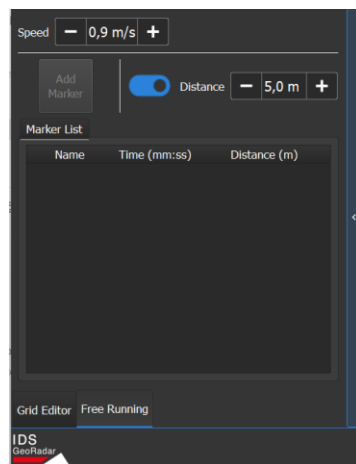

Fig. 20 Add automatic Markers
- Select the Free Running tab at the left lower corner of Fig. 20
- Enter the expected Speed Value during data acquisition (0,9m/s in Fig. 20)
- Enter the distance between markers (5 m in the example of Fig. 20)
NOTE: Speed entered in the acquisition panel (Fig. 20) should be as much as possible close to the “real” one. This, affect the progress of the B Scan on screen with respect to the actual position on site.
1. Select the Free Running tab at the left lower corner of Fig. 20,